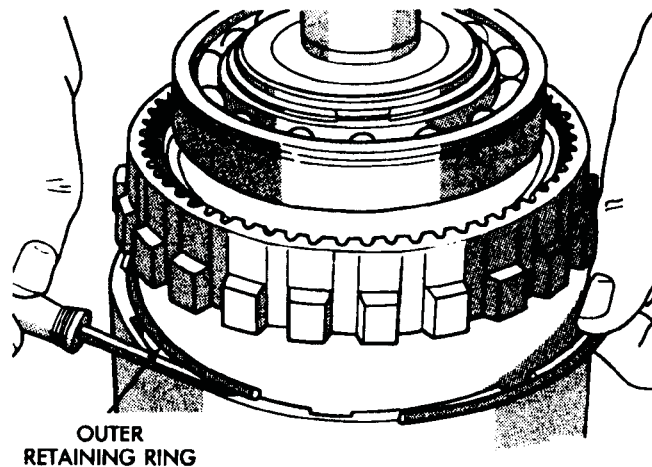

Fig. 31 Clutch Drum Outer Retaining Ring Removal
(21) Remove direct clutch drum outer retaining ring (Fig. 31).